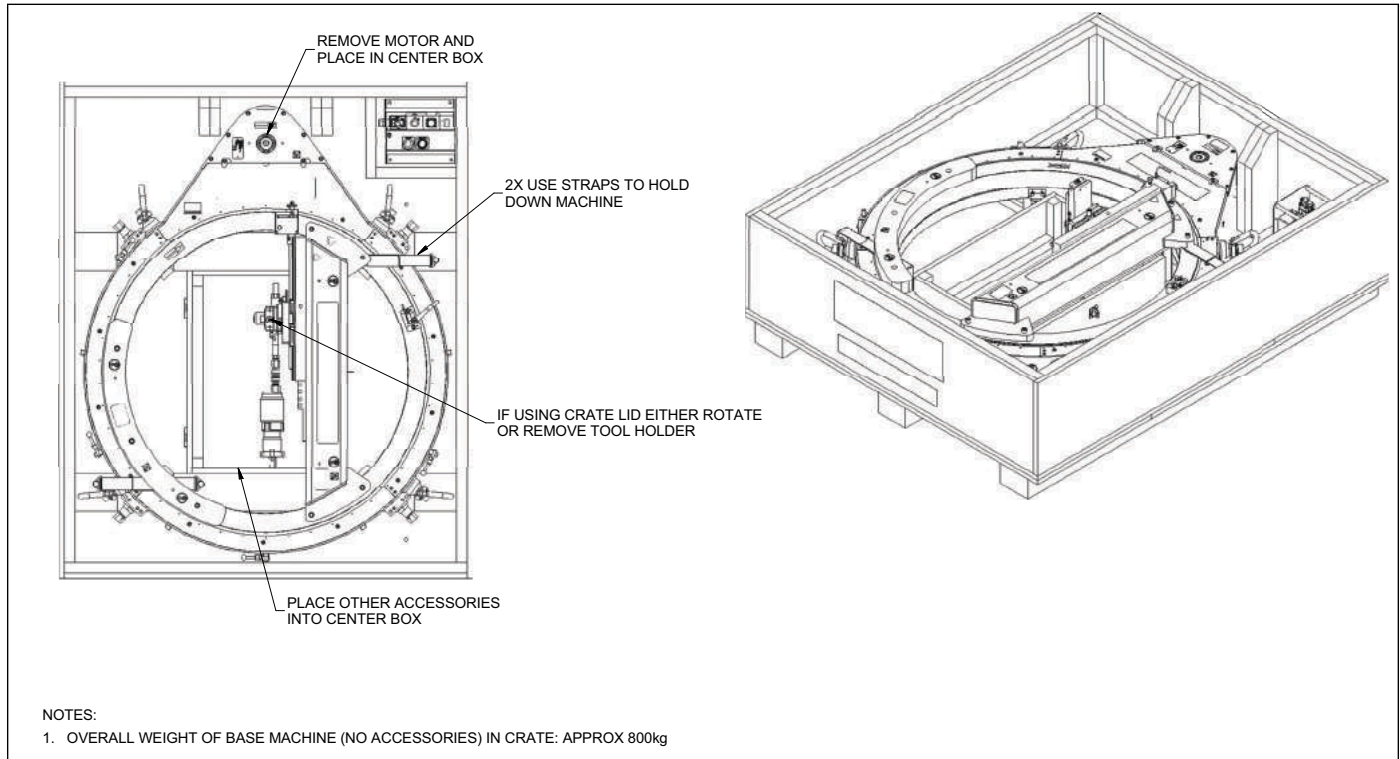

FIGURE 6-1. ODF40 CRATE
7. Store the ODF40 Speed Facer in its original shipping box (see Figure 6-1).
The ODF40 Speed Facer can be shipped in its original shipping container, as shown in Figure 6-1.